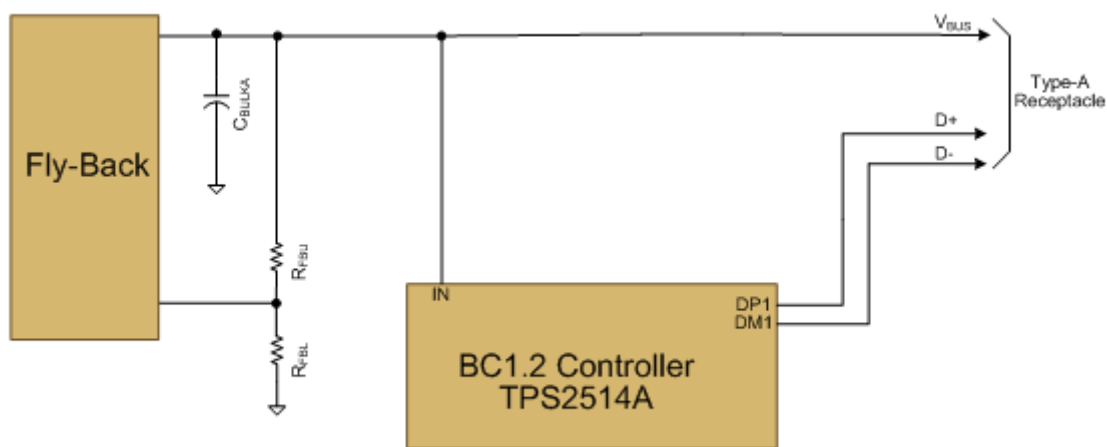
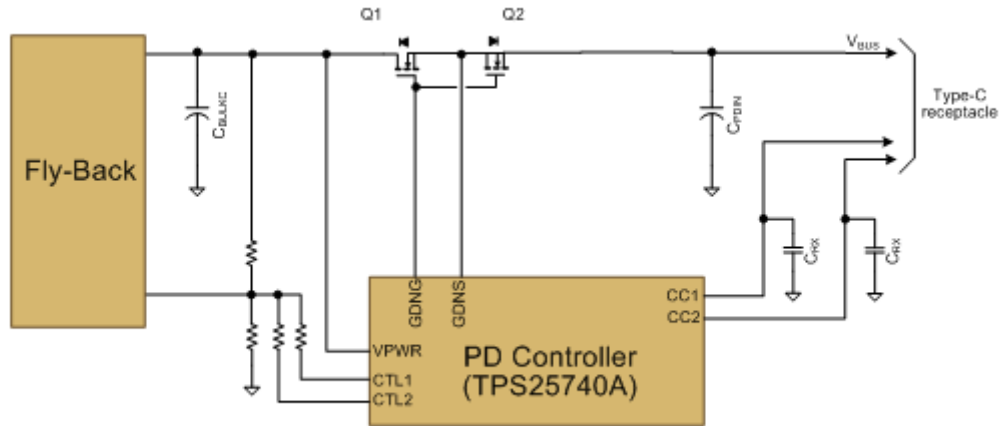

Figure 1. Traditional USB Charger Schematic for Type-A Receptacles
Figure 2. USB Type-C PD Charger Schematic for Type-C Receptacles
Traditional USB Type-A chargers have just one voltage, which lends itself to a simple high-level design. Figure 1 shows a simplified schematic. The resistor divider formed by R_{FBL} and R_{FBU} enables closed-loop regulation of the output voltage applied to V_{BUS} . In this topology, the flyback controller must limit the output current for safety.
USB Power Delivery (PD) on the USB Type-C™ connector enables higher power charging, which will broaden the USB charging ecosystem even more. However, USB PD and USB Type-C have new requirements, for which the schematic in Figure 1 is not sufficient.
Figure 2 shows a simplified schematic for a USB PD charger. Right away, you can see that there are two MOSFETs in the power path and a bulk capacitance that were not there in Figure 1. Notice also that this schematic can deliver *multiple* voltages. The PD controller negotiates voltages over the configuration channel (CC) and then pulls the CTL1 and/or CTL2 pins low to adjust the resistor divider to get a voltage higher than 5V. The CTL pins are either pulled to ground or set to high impedance by the PD controller to select the desired output voltage.
Cold socket	Requires Q1 FET in Figure 2
Limit initial V_{BUS} -to-GND capacitance	Requires Q2 FET in Figure 2 to divide capacitance between C_{BULK} and C_{PDIN} .
The first new requirement is that **USB PD-capable chargers must be cold socket**; in other words, V_{BUS} is at 0V when the plug is empty. Also, when faults occur, the source is required to drive V_{BUS} to 0V for close to 1s as it performs a USB PD Hard Reset. Driving V_{BUS} to 0V requires a way to disconnect the flyback output from the V_{BUS} on the connector while maintaining the PD controller supply. The schematic in Figure 2 uses the Q1 FET to allow V_{BUS} to go to 0V, while the PD controller keeps its supply input (VPWR) high so that it can monitor for a sink attachment on CC1 and CC2.
The second new requirement is that the **Type-C receptacle cannot expose more than 10 μ F to V_{BUS} when the receptacle is empty**. The schematic in Figure 2 uses the Q2 FET to block in-rush current into C_{BULK} . Q2 divides the capacitance so that C_{PDIN} applies directly to V_{BUS} on the connector, and C_{BULK} is isolated from the connector. Since USB PD may provide up to 100W, the C_{BULK} capacitance may be very large. The USB 3.1 specification gives several reasons to limit capacitive in-rush, including limiting contact arcing to prolong the life of the connector (see USB 3.1 Section 11.4.4.1), which led to requiring USB Type-B ports limit capacitance exposed on the V_{BUS} pin of their receptacle to 10 μ F.